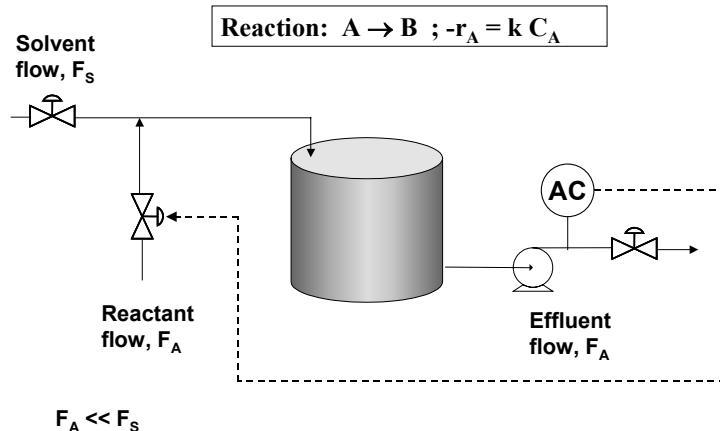

Figure 9.1
9.1 The feedback PID controller has been implemented to control the concentration of the reactant in the reactor effluent from a CSTR. The system is shown in Figure 9.1